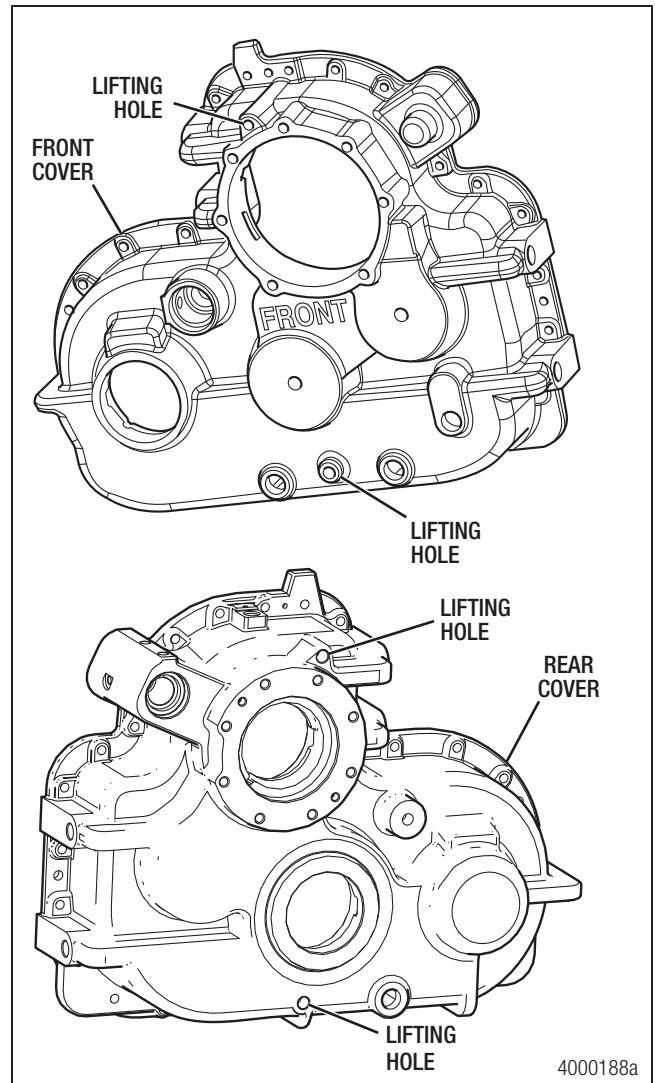

Figure 4.9
- Install eyebolts in the lifting holes located in either half of the transfer case housing. Lifting holes are located at the top and bottom of each half of the transfer case near the center. Figure 4.9.